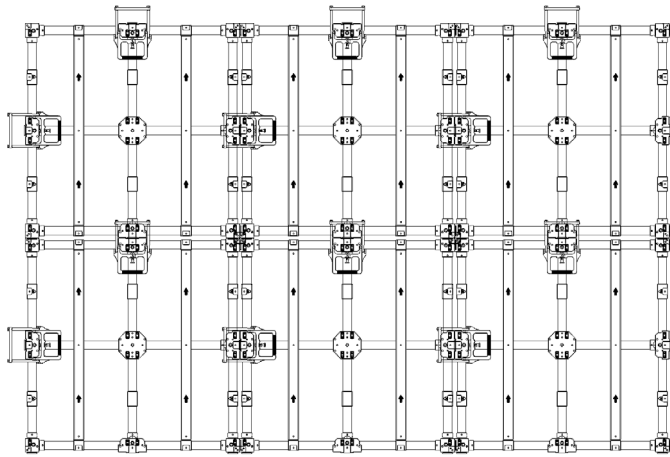

Figure 2.1.3
Step 3: Repeat the operation of step 2 to complete the installation as shown in (Figure 2.1.3). (Take 3m*2m size as an example).